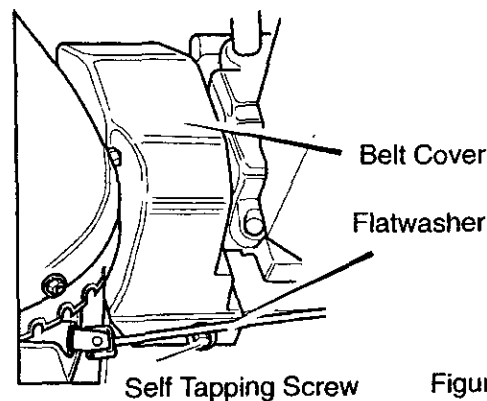

Figure 22
2. Remove the **belt cover**. See Figure 22.
3. Remove the **screw** from the **belt cover**. Remove the **belt cover**. See Figure 22.
14. Install the **belt cover**. Tighten the **screw**. See Figure 22.
12. Install the belt cover. Tighten screw. See Figure 22.
2. Remove the **screw**. Remove the **belt cover**. See Figure 22.
6. Install the **belt cover**. Tighten the **screw**. See Figure 22.